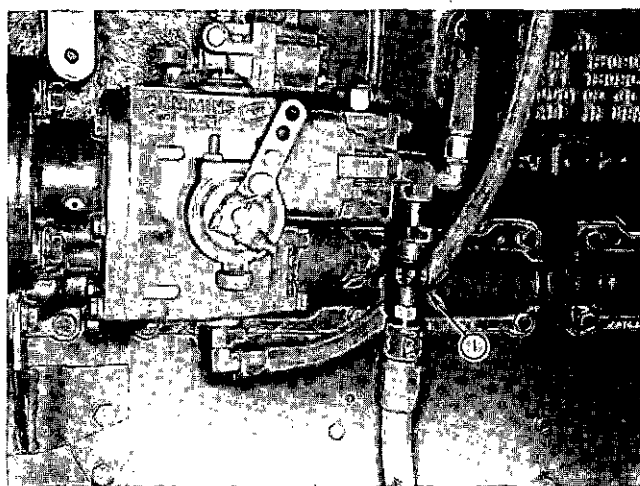

Fig. 2-9 (N11964) Checking air leaks with ST-998 Sight Gauge
2. If there are indications of air leaks on suction side of fuel pump, check for air leaks by placing ST-998 Sight Gauge (1, Fig. 2-9) in the line between fuel filter(s) and pump. Bubbles or "milky" appearance indicate an air leak. Find and correct.